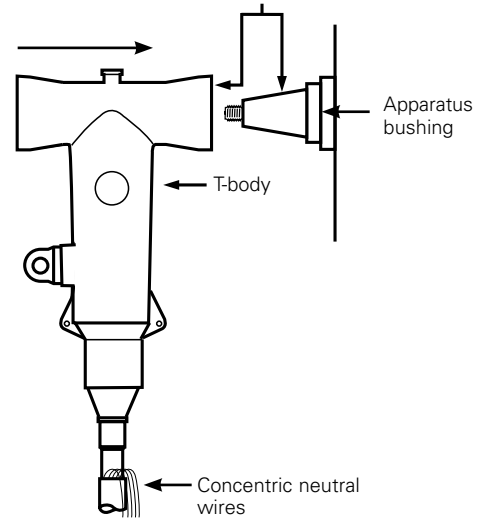

Figure 26. Line illustration of BOLT-T connector installation onto apparatus bushing.
- Push T-body onto apparatus bushing ensuring that the stud on the bushing passes through the hole of the compression connector. See Figure 26.